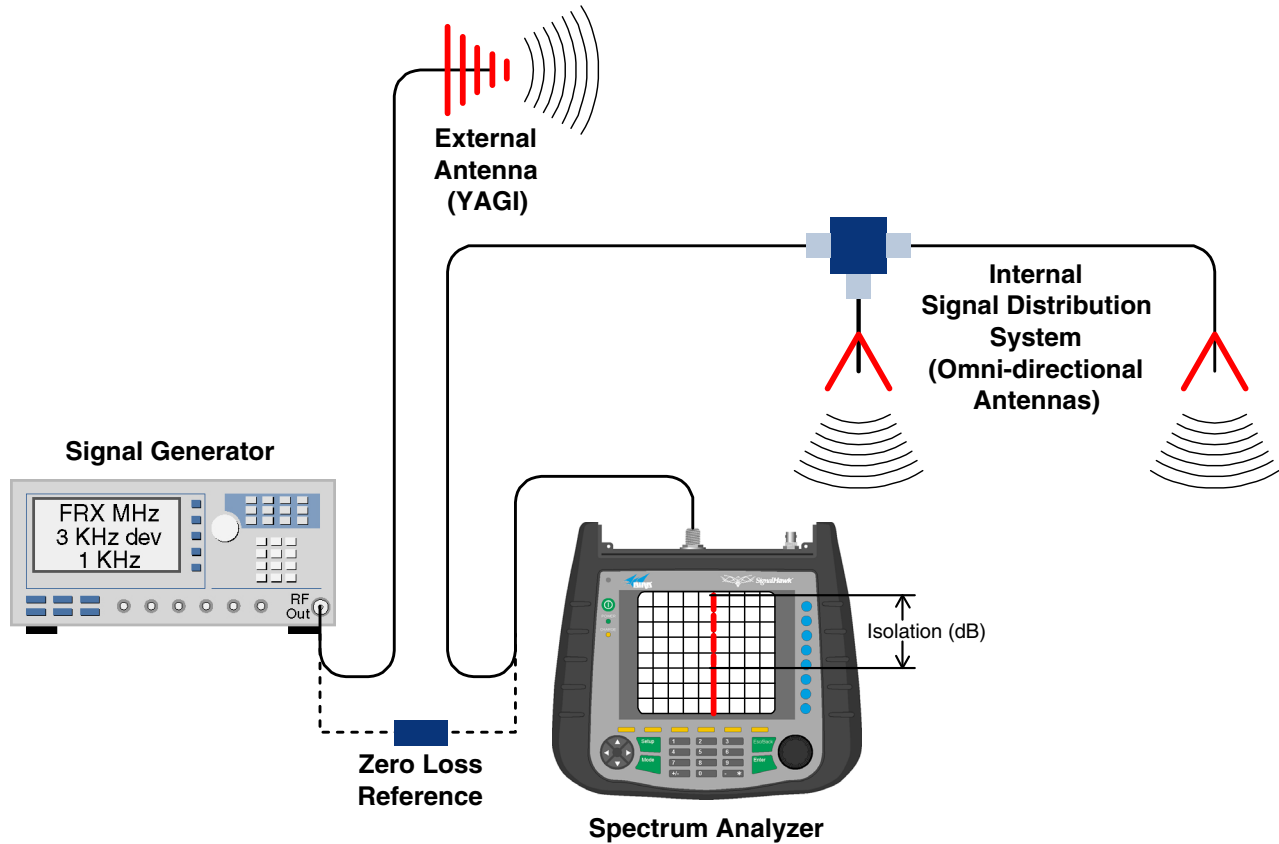

Figure 6: Typical test equipment interconnection for measuring antenna isolation.
- 3) Connect the test leads of the signal generator and the spectrum analyzer together using a female barrel connector, see **Figure 6**. Observe the signal on the analyzer and adjust the input attenuator of the spectrum analyzer for a signal level that just reaches the 0 dBm level at the top of the graticule.
- 4) Referring to figure 6, connect the generator test lead to one side of the signal distribution system (external antenna) and the spectrum analyzer lead to the other (internal distribution system) and observe the signal level. The difference between this observed level and 0 dBm is the isolation between the sections. If the signal is too weak to observe, the spectrum analyzer's bandwidth may have to be narrowed and its input attenuation reduced. Record the isolation value for future reference. **The isolation value measured should exceed the signal boosters gain figure by at least 15 dB.**